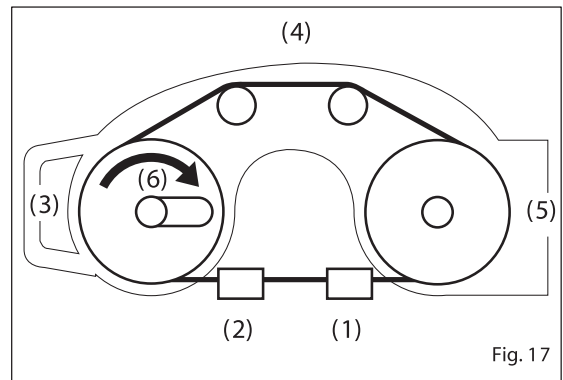

Fig. 17
## Attaching the blade (Fig. 17)
- Attach the blade, using steps (1) through (5) in Fig. 17. Then turn the tension lever clockwise (6) to apply tension to the blade.